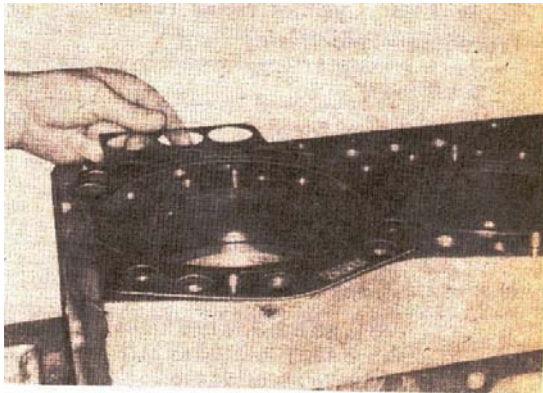

Fig. 14-26, Install the cylinder head gasket
1. Put the cylinder Head gaskets over the dowels in the block. The work "TOP" on gasket must be visible after the gasket is installed. Fig. 14-26.